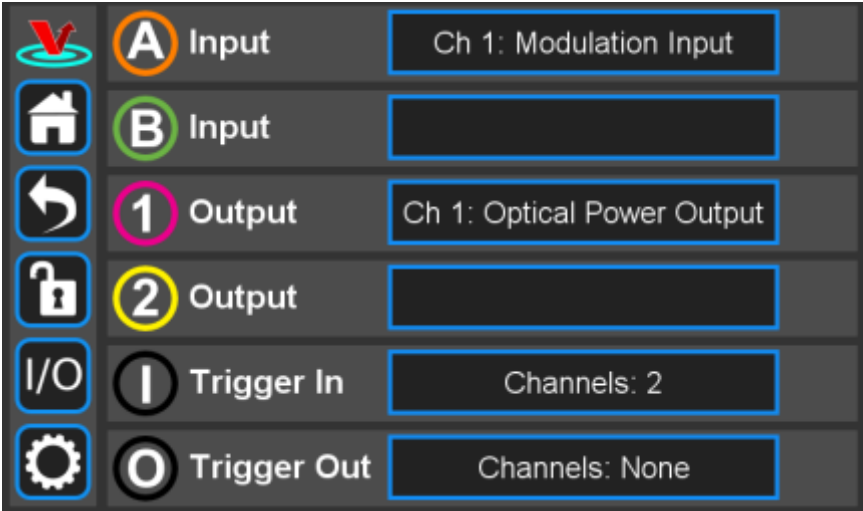
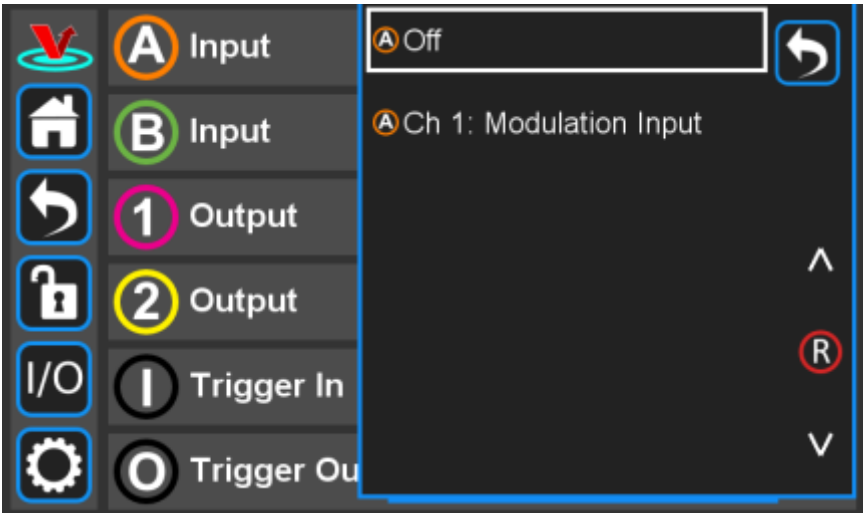
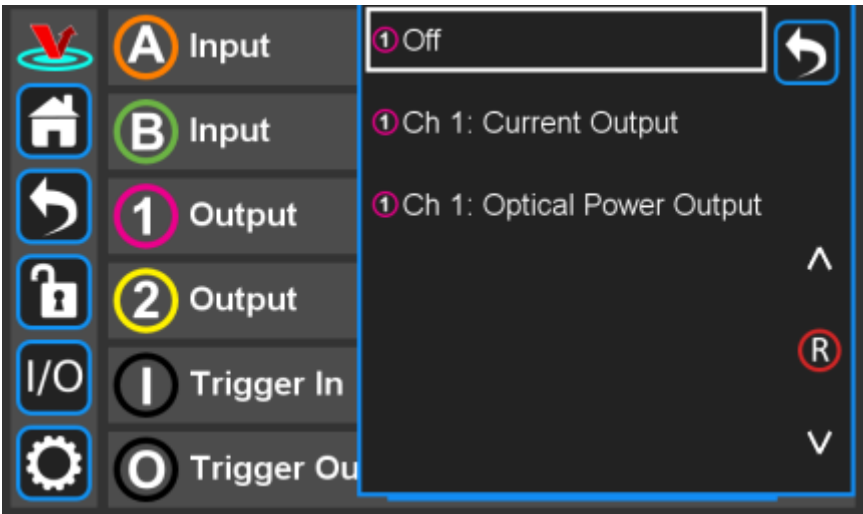

Fig. 28: I/O programming window
Fig. 29: Input choice for front-panel input
Fig. 30: Output choices for front-panel input
The SLICE-DCC has two programmable inputs (labelled A & B) and two programmable outputs (labelled 1 and 2) on the front panel. It also has a rear panel trigger input and trigger output. Touching the I/O icon on the control bar will open a screen similar to that seen in figure 28. From here, it is possible to assign control information input to the two inputs and system performance data to the two outputs,
From figure 28, if one touches either the A or B input window, the choices for input for that channel are presented (figure 29).
The only input option is a modulation signal. The SLICE-DCC can respond to a modulation or control signal over a bandwidth of DC to 1 MHz. Only one of the two modulation input ports (rear-panel SMA, figure 3, item 9 or front-panel BNC, figure 2, item 2) can be active at any given time. Activating the front-panel input via the screen in figure 29 automatically disconnects the rear-panel input.
From figure 28, if one touches either the 1 or 2 output window, the choices for output for that channel are presented (figure 30).